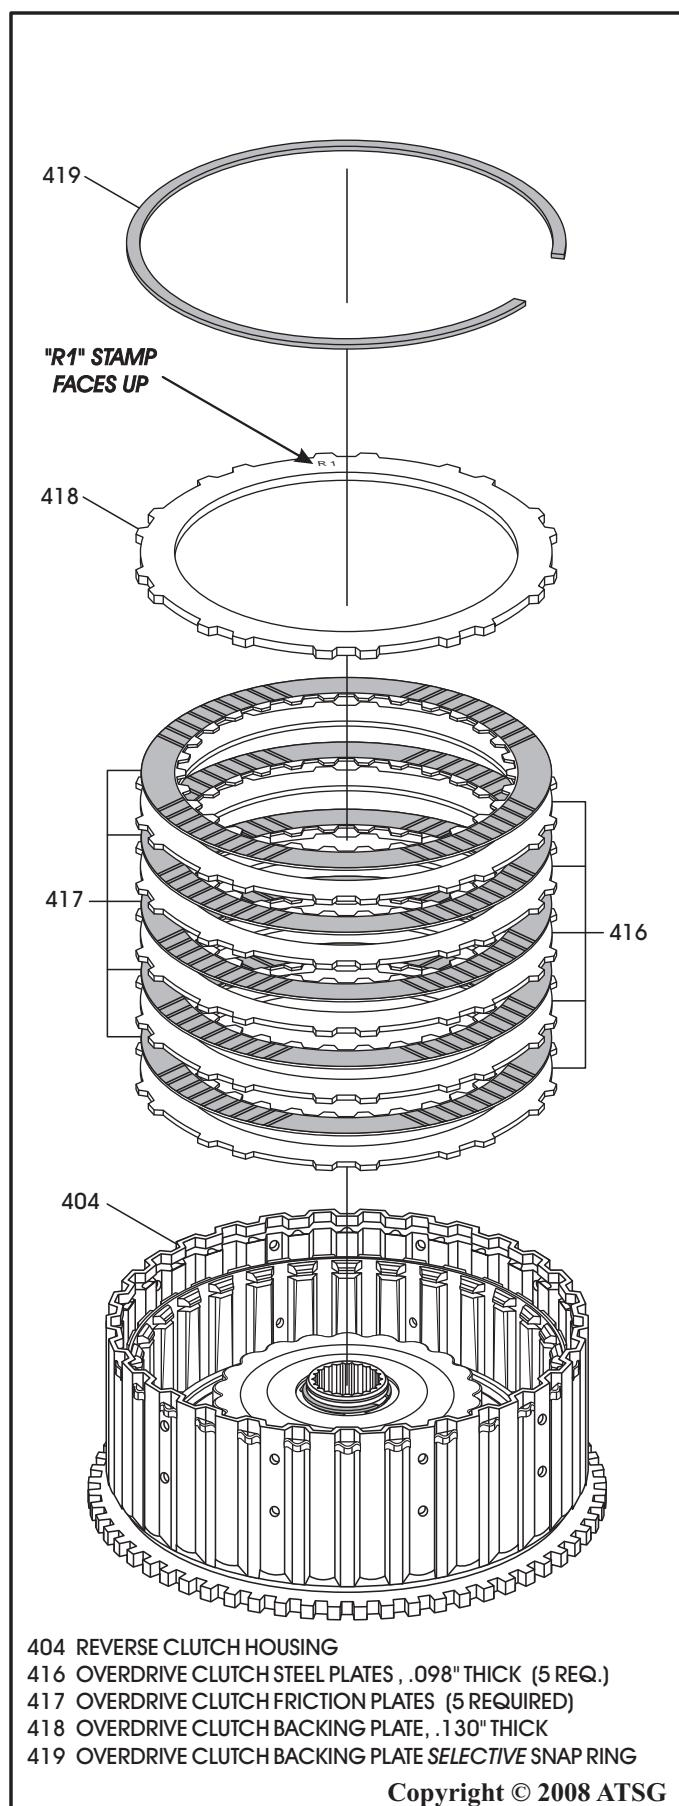

Figure 93
15. Install overdrive clutch plates beginning with a steel plate and alternating with friction plates, as shown in Figure 93.
16. Install the overdrive clutch backing plate, as shown in Figure 93, and the "R1" stamp must face up as shown, and must be oriented the same as the steel plates.
17. Install overdrive clutch backing plate selective snap ring, as shown in Figure 93.